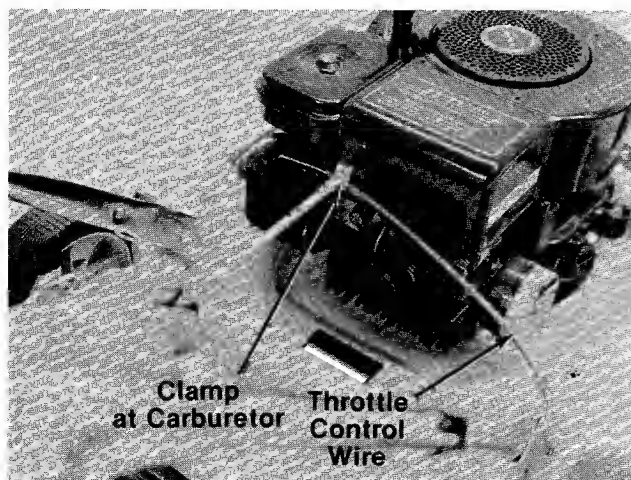

**FIGURE 14.**
1. Loosen (do not remove) two sems hex bolts. See figure 14.